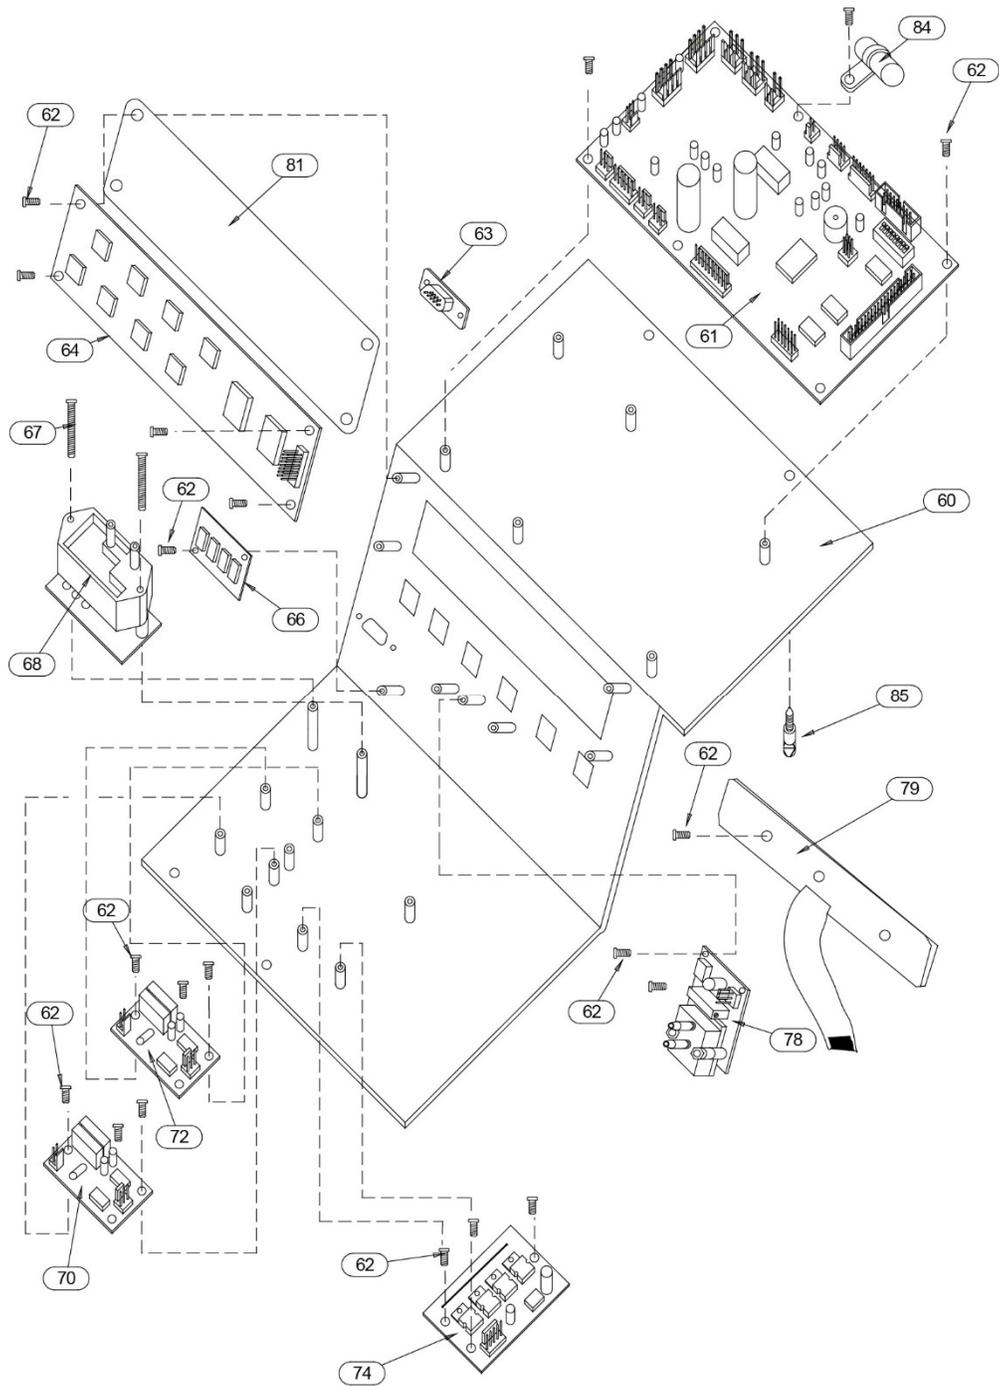

Figure K1. Exploded view of obsolete instrument panel configuration
- 3) Remove 6 screws (62) holding Controller Board (61). Discard Controller Board and save screws, clock battery (84) and spacer. (See Figure K1)
- 4) Remove temperature boards (70 & 72), barometric board (68), static pressure board (78), button
board (79), display (64) and all cables from these boards. Discard boards and cables. Save screws. (See Figure K1)
- 5) Remove Ambient Sensor cable (A1680), External Power cable (A1679), Backlight Shunt cable with resistor (A1677), and Battery Cable (A1676). Discard all cables. Save the Resistor Clamp (143). Plug the two holes from the resistor clamp using existing screws and 2 nuts provided.